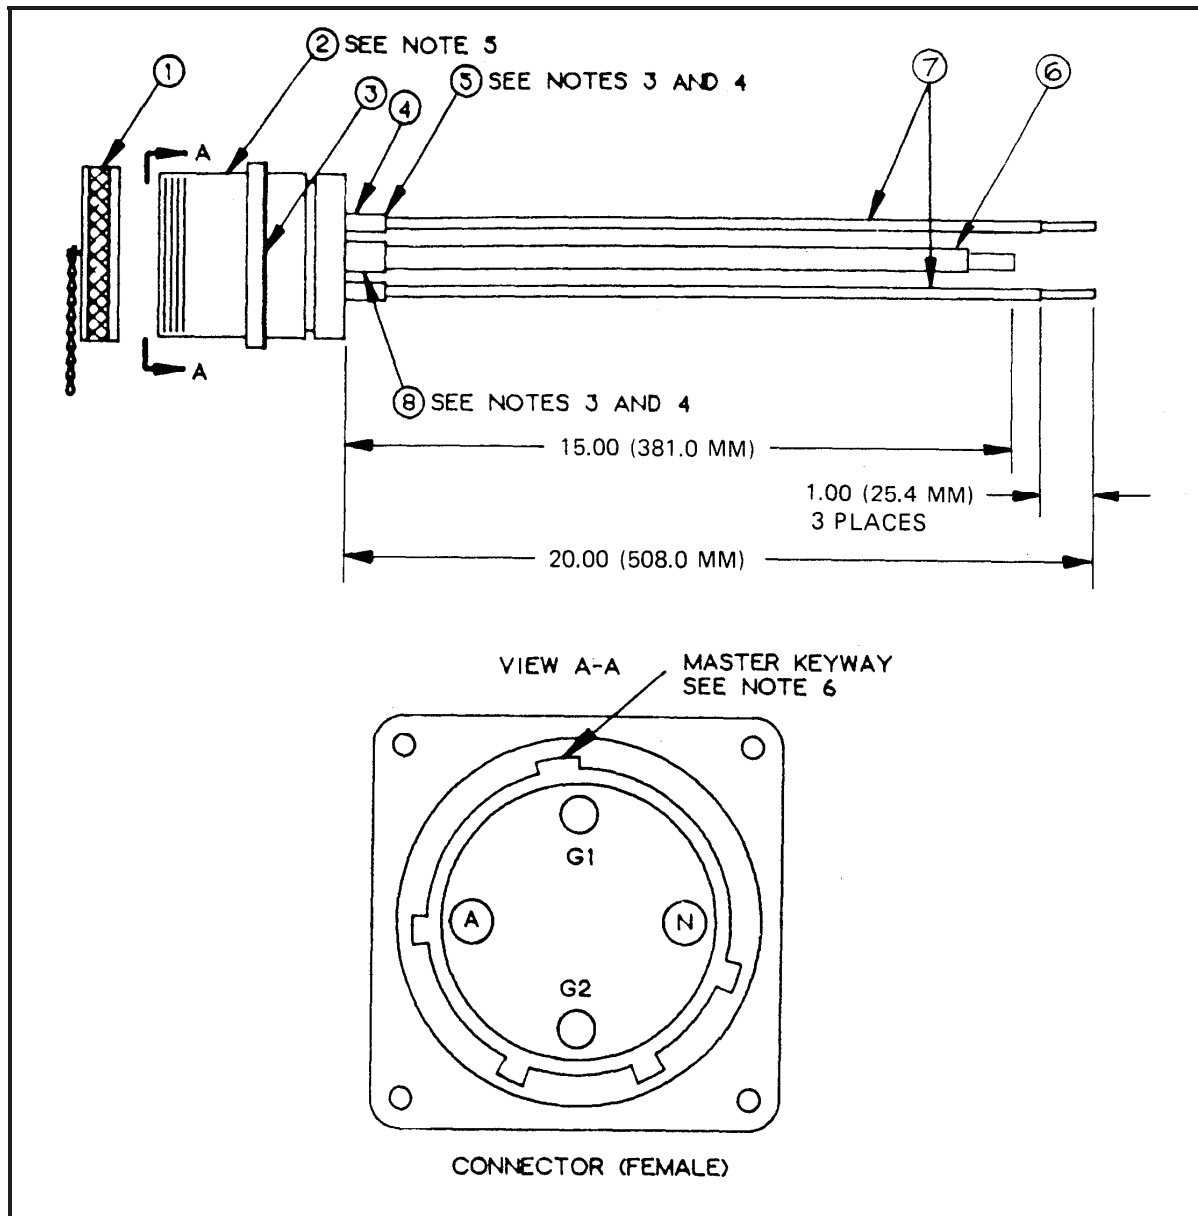

Figure F-32. Distribution Center Output Connector Assembly, M60 A/P (PDISE), 60-Amp (J2)
Component Legend for Figure F-32
c. Electrical connector (Figure F-32, Item 2) is furnished with the following: